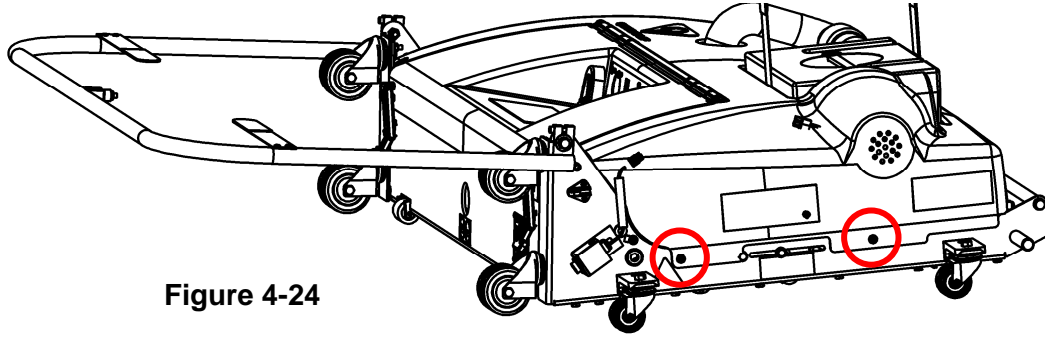

Figure 4-24
- Unlatch the oil compartment door latches, disconnect the vacuum hose and remove the waste tank, remove the cap from the cleaner tank, remove the two screws from each side of the hood (see Figure 4-24), and lift the hood from the frame. Set the screws aside.